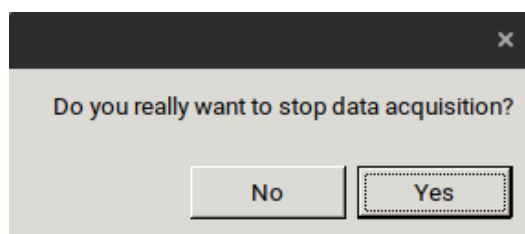

Figure 53: Stop Data Acquisition/Shutdown
2. A window displays (Figure 53) prompting the user to confirm the shutdown. Click **Yes** to continue with the shutdown process.